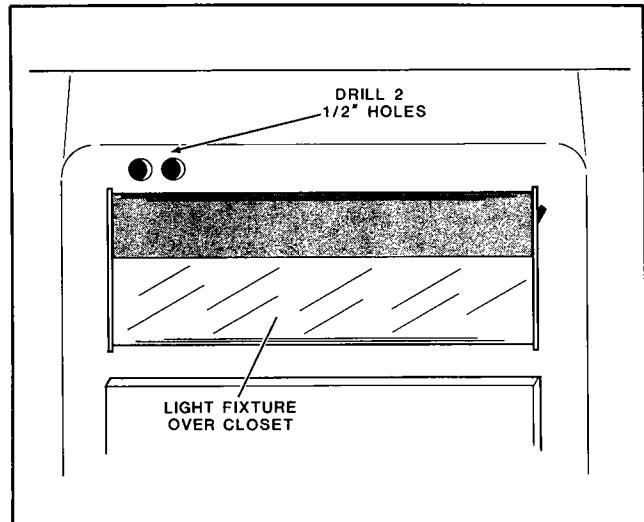

Figure 28. Hole Locations
5. Drill two 1/2-inch holes at the locations shown in figure 28.